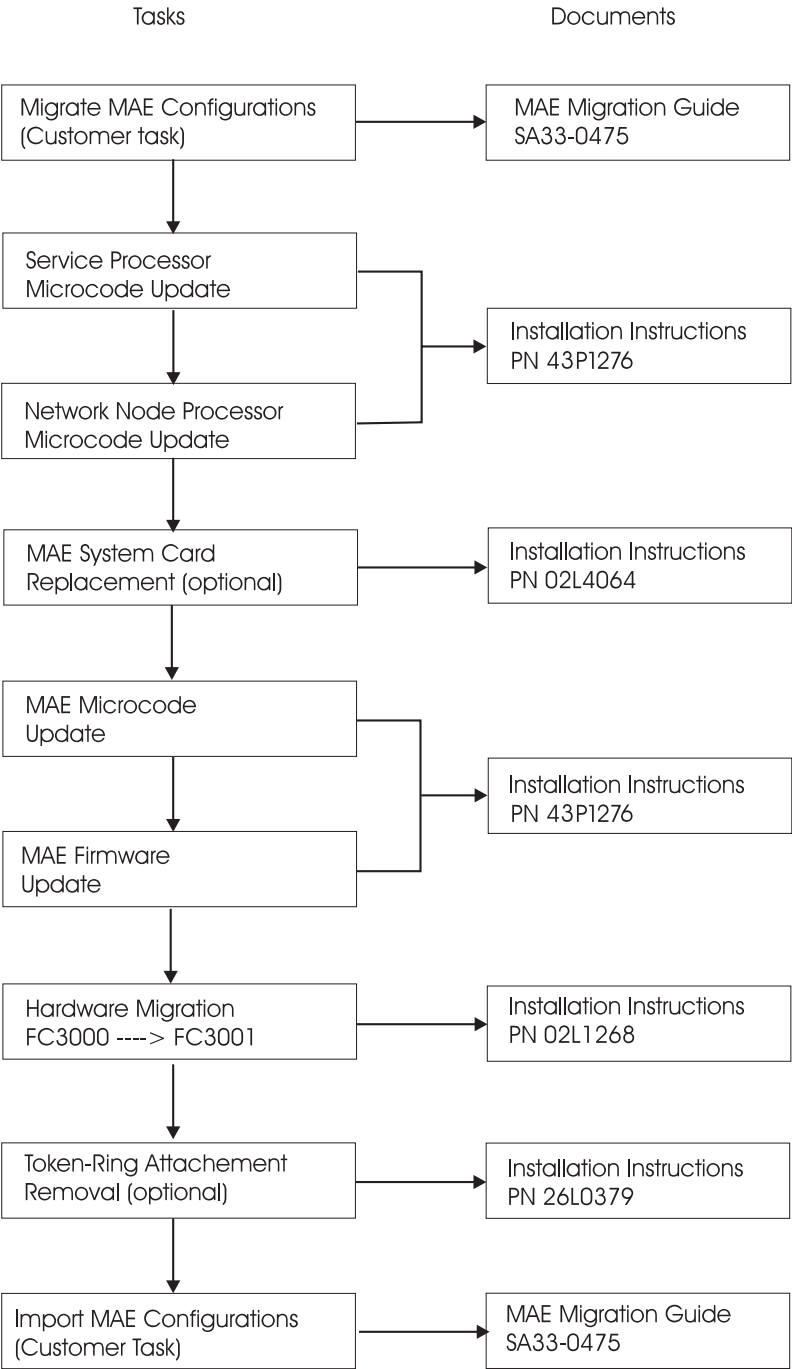

Figure 1. MAE FC 3000 to 3001 Migration Scenario
- Familiarize yourself with the purpose and details of the installation instruction before negotiating machine time with the customer (see Figure 1 on page 9).
If you are migrating a MAE from FC 3000 to FC 3001, see Figure 1 on page 9 to get the sequence of the installation tasks and the documentation to be used.